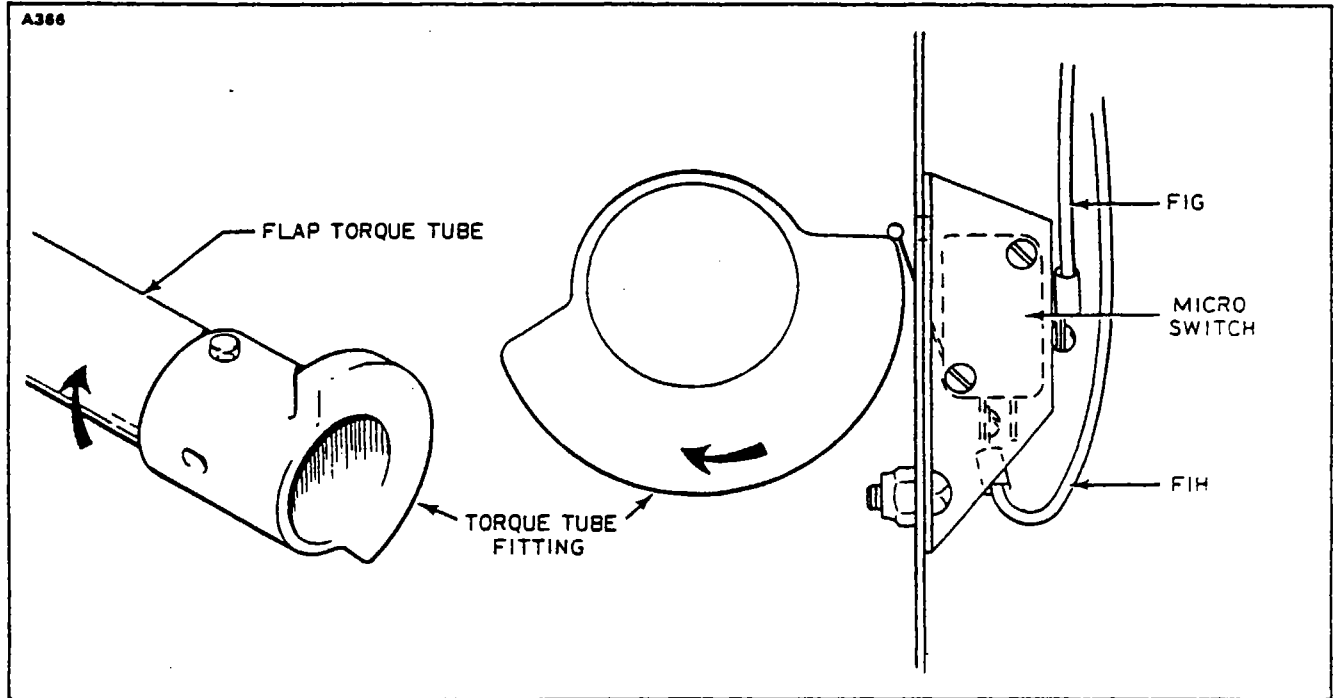

Figure 11-22. Adjusting Lift Detector Micro Switch
1. Refer to Section V, Paragraph 5-36 and proceed to the extent necessary to gain access to the micro switch mounted on a bracket adjacent to the left end of the wing flap torque tube. (Refer to Figure 11-22.)